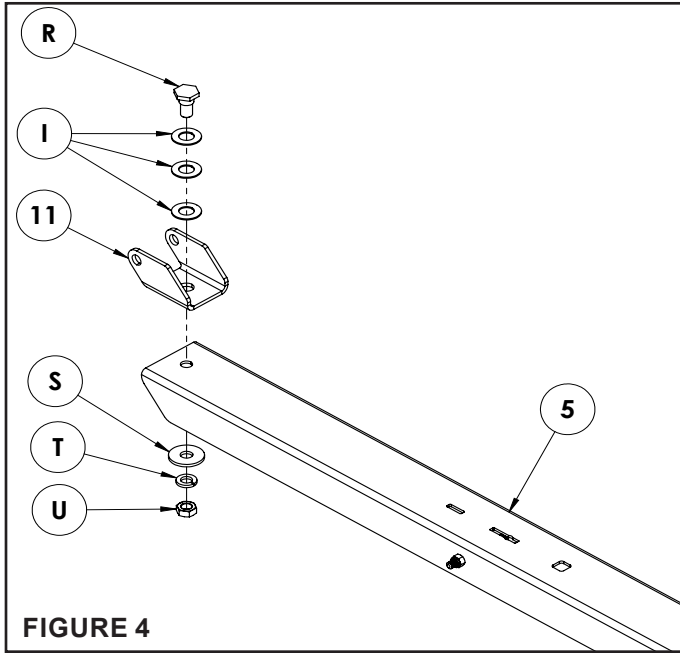

FIGURE 4
- Attach the hitch bracket (8) to the swivel tongue (5) using two 5/16" hex bolts (B) and 5/16" nylock nuts (F).
- Install the 1/2" x 1-33/64" clevis pin (L) through the hitch bracket (8) and swivel tongue (5).
- Secure the clevis pin (L) with 3/32" x 2-5/16" hair cotter pin (M).
STEP 4: (SEE FIGURE 4)
- Place a 1-1/4" washer (I) onto the swivel tongue (5) and then place the pivot clevis (11) onto the washer (I) as shown below.
- Install a 1/2" bolt (R) through two 1-1/4" washers (I), pivot clevis (11), 1-1/4" washer (I), and the swivel tongue (5).
- Secure the 1/2" bolt (R) with a 1-1/2" washer (S), 1/2" lock washer (T), and a 1/2" jam nut (U).
- Tighten hardware but make sure the pivot clevis (11) can still move freely.